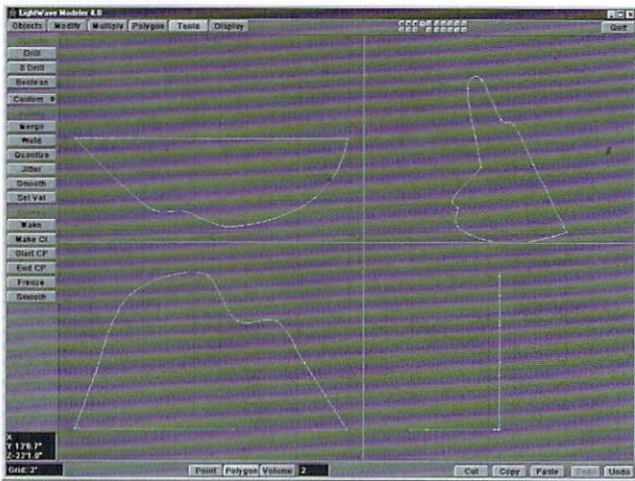

Figure 2
- Before you make this curve, deselect all the points you just created. Now go back and select the base points, beginning with the original point that was used to set $Y = 0$ and finishing with the point farthest to the right. Now you can turn these points into a curve by using **Make Curve** or (Ctrl-p). Both curves should share endpoints on their left and right sides. You should have something that looks like Figure 2.